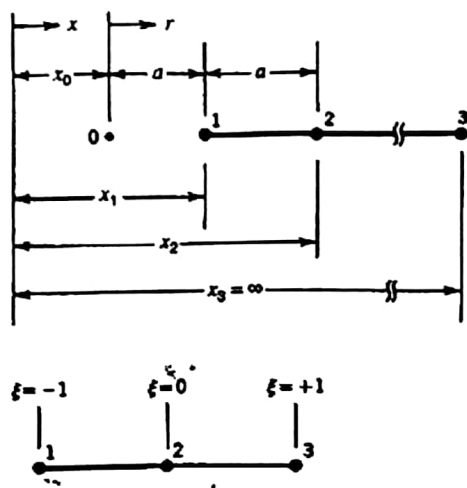

Figure 9
9. (10%) A 1D infinite element is created by using a conventional shape function to describe variation of the field quantity (e.g., displacement) but describe element geometry by placing one side of element at infinity as illustrated in Figure 9. Establish the mapping relationship between the parametric coordinate ( $\xi$ ) to the physical coordinate ( $r$ ) where  $r = x - x_0$ .